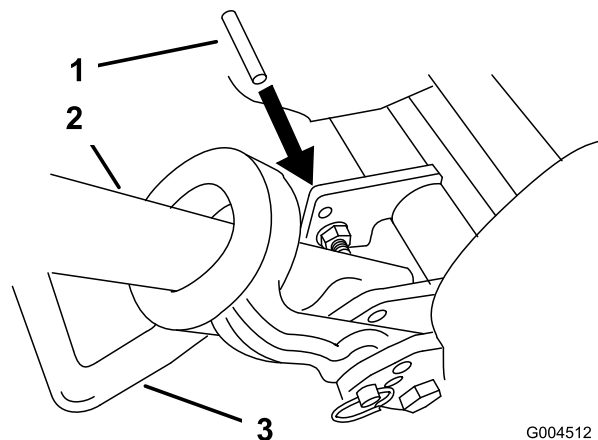

Figure 44
2. Lower kick stand. Insert a 1/4" dia. pin or equivalent into frame hole above kick stand mounting bolt (Figure 44).